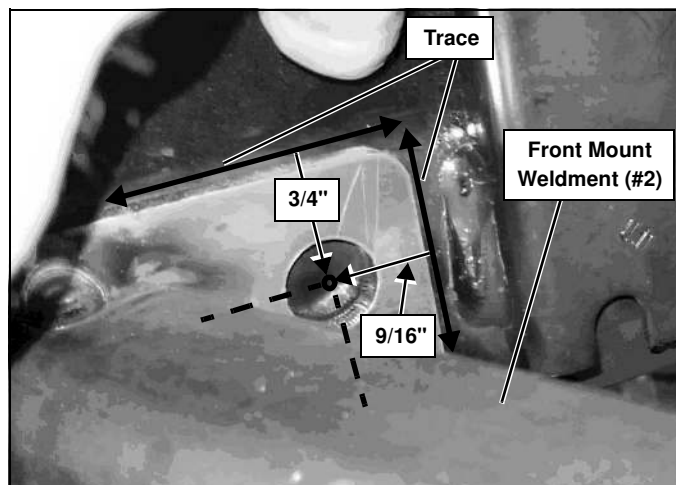

Figure 5
- Attach the Front Mount Weldment (#2) to the frame by aligning the four outer most holes with the tow hooks holes in the frame. Fasten tightly with (2) M14-2.00 X 60 mm Cap Screws (#9) in the front holes of the frame.
- A hole must be drilled to the side of the frame (one in each frame rail), but cannot be done with the Front Mount Weldment (#2) in place. To locate the hole, trace onto the frame the top and back edge of the part around the side hole. Next, remove the Front Mount Weldment from the truck. Draw a parallel line 3/4" down from the horizontal line. Draw a parallel line 9/16" toward the front of the truck from the vertical line. Center punch and drill a 17/32" hole where the two lines cross. (See Figure 5.)